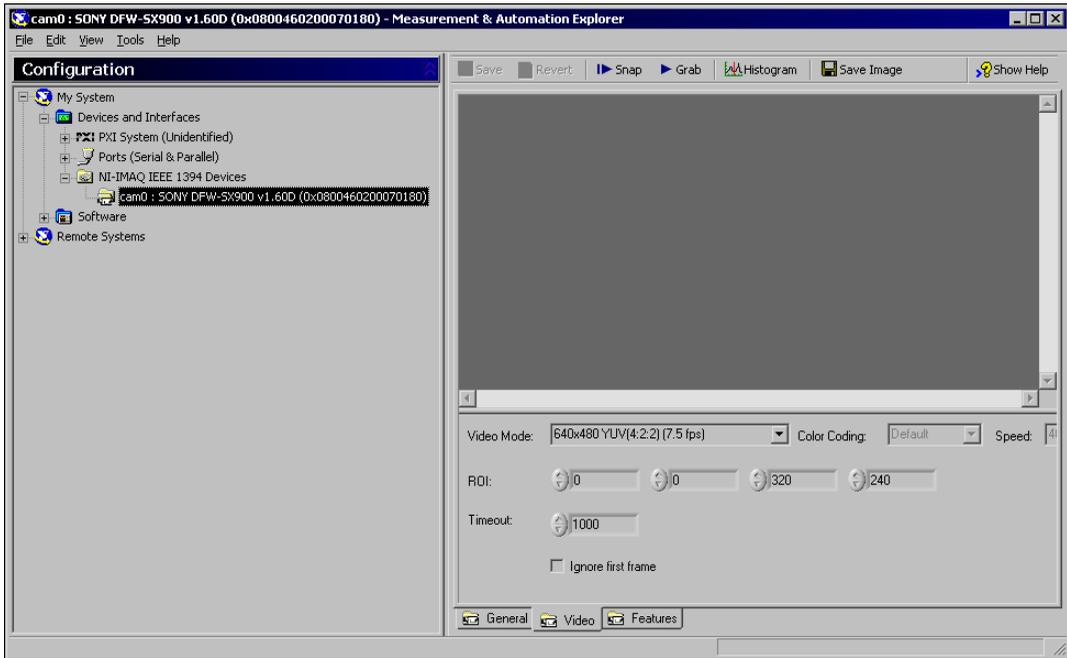

Figure 2. Setting the Camera Properties
- d. Select the camera from the menu. You can then view or modify the camera features from the **Properties Panel** located below the image viewer, as shown in Figure 2.